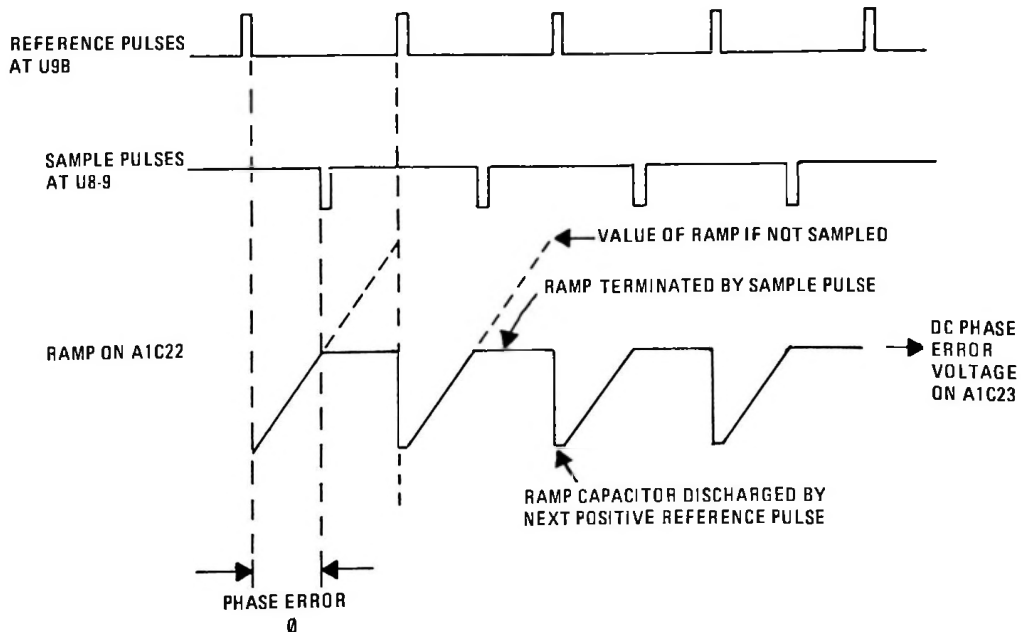

Figure 2. Phase Detector Waveforms in Locked State
FET Q4, and hold capacitor C23. NAND gates U9C, U9D form a one-shot which provides a very narrow reference pulse at the rate of 100 kHz. This reference pulse sets U10A-5, causing switch Q1 to conduct, and charging C22 through Q2 and R12. The ramp at C22 is terminated by a sample pulse from the $\frac{1}{N}$ output at U8-9, clearing flip-flop U10. This pulse also momentarily cuts off switch Q5, which turns on sampling FET Q4. When Q4 is on, the voltage on C23 increases or decreases to attain equilibrium with ramp capacitor C22. Waveforms generated in the phase detector are shown in figure 2.
When the loop is locked, both reference and sample pulses to the phase detector occur at a 100 kHz rate in alternating sequence, as shown in figures 2 and 3. The time
The following procedure is used to align and test the High Band PLL assembly. This adjustment should be made if the VCO does not lock frequency within one-half second of re-setting one of the first three digit switches, or if the module jumps in and out of lock. In a properly adjusted assembly, the dc voltage at A2TP2 on the RF pw board (see figure 8) decreases in incremental steps from approximately 13 Vdc at a "299" switch setting to approximately 1.5 Vdc at a "000" switch setting. Ramps at A1TP1 should truncate at the same level as shown in figure 2.
f. Set oscilloscope for a horizontal sweep of 10 microseconds per division, and calibrated to read one volt per division, vertical. Connect oscilloscope to A1TP1. Adjust A2R1 until all ramps terminate at the same dc level as shown in figure 2.
h. Adjust A2R1 for a ramp amplitude of 2.5 volts peak-to-peak, and so that all ramps truncate at the same level as shown in figure 2.